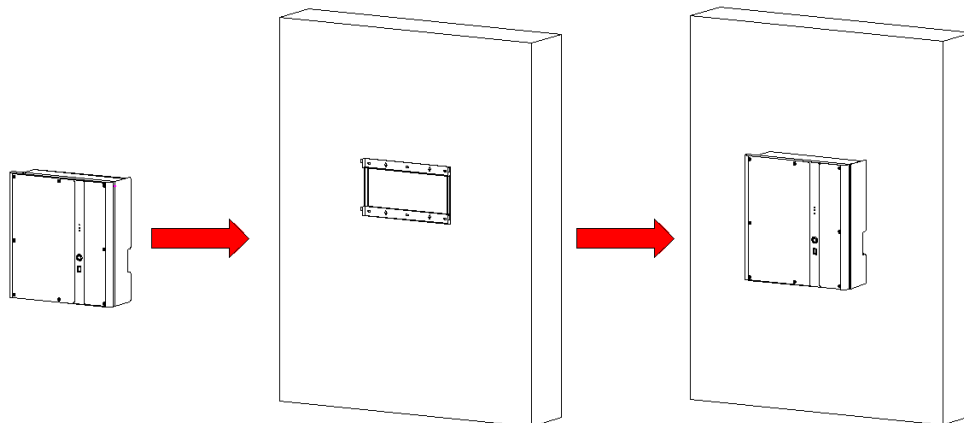

Figure 2.8 Box Fixation
Step 3: install the box of Storion-SMILE-B3 (hold the two handles on the back of B3 and install the B3 box to the stand), as shown in Figure 2.8.